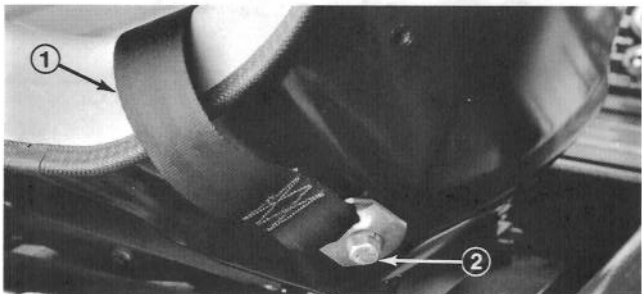

Figure 11
1. Install seat belt to holes in back of seat with (2) 7/16 x 1" lg. bolts and lockwashers (Fig.11). Tighten securely.